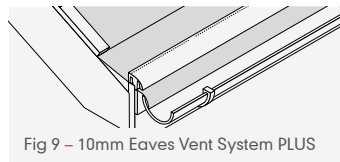

Fig 9 - 10mm Eaves Vent System PLUS
- 1 Install the roofing underlay over the rafters, ensuring sufficient drape into the gutter (Fig 9).